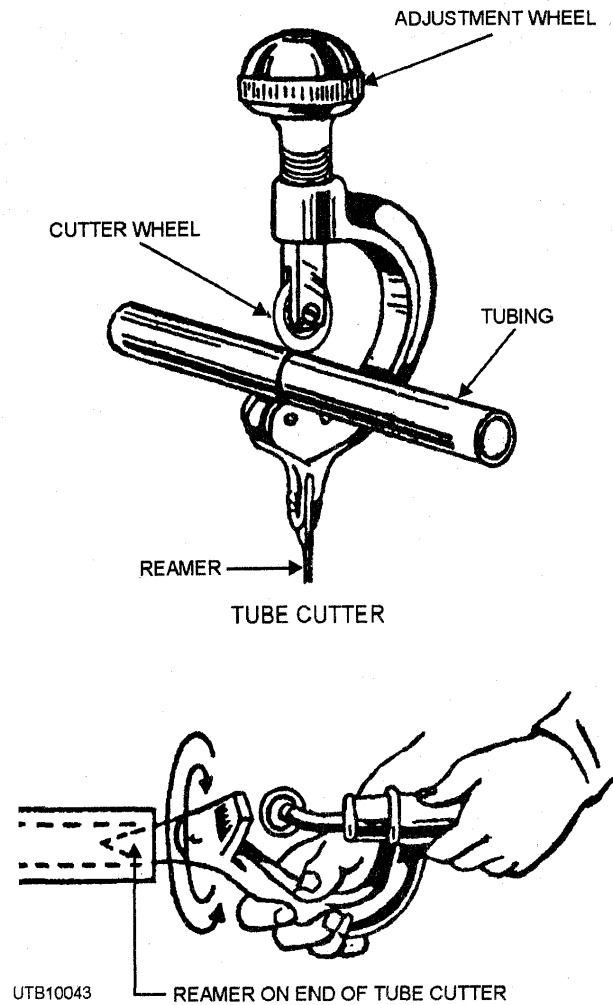

Figure 3-43.—Cutting and reaming copper tubing.
**CUTTING AND REAMING.**—Copper should be cut with a tubing cutter, when available. Mark the copper where it is to be cut and install the cutter so the cutter wheel is over the mark, and you can see the cutting wheel from the top view of the pipe, as shown in figure 3-43. Now turn the adjustment wheel or handle clockwise to force the cutter wheel against the copper. Continue revolving the cutter, turning the adjustment wheel slightly after each revolution until the copper is cut through and it separates.